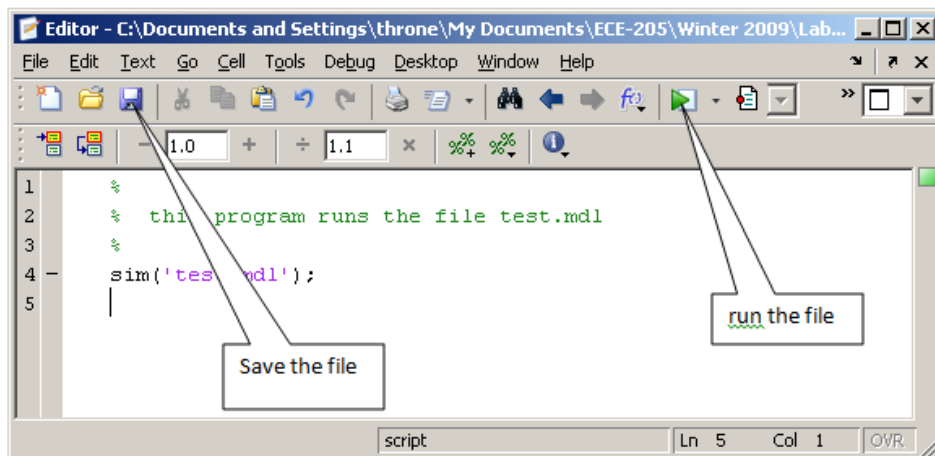

Figure 17: Save and Run an m file
7. Save this file and then run it, as shown in Figure 17.
17. The final time of the simulation should be changed to **Tf**. Delete any figures and run your MATLAB driver file again. You should get the same figure as before (see Figure 17). You should include this figure in your lab memo submission with your initials included in the title. To include this graph, select **Edit** and then **Copy Figure**. You can then paste the figure